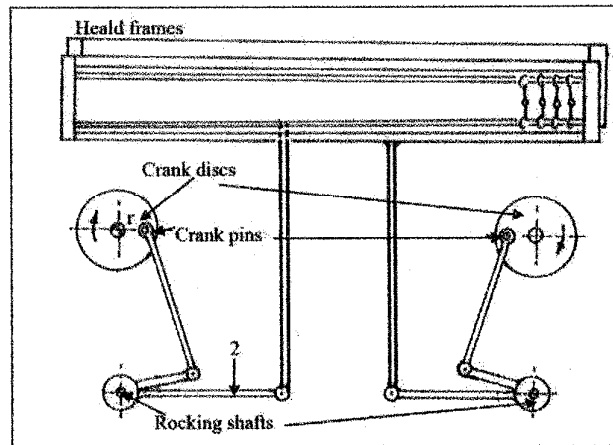

Figure 03.
- (a) Figure 03. shows a crank shedding mechanism. Explain the principle of the crank mechanism used in the shedding motion of weaving machines.